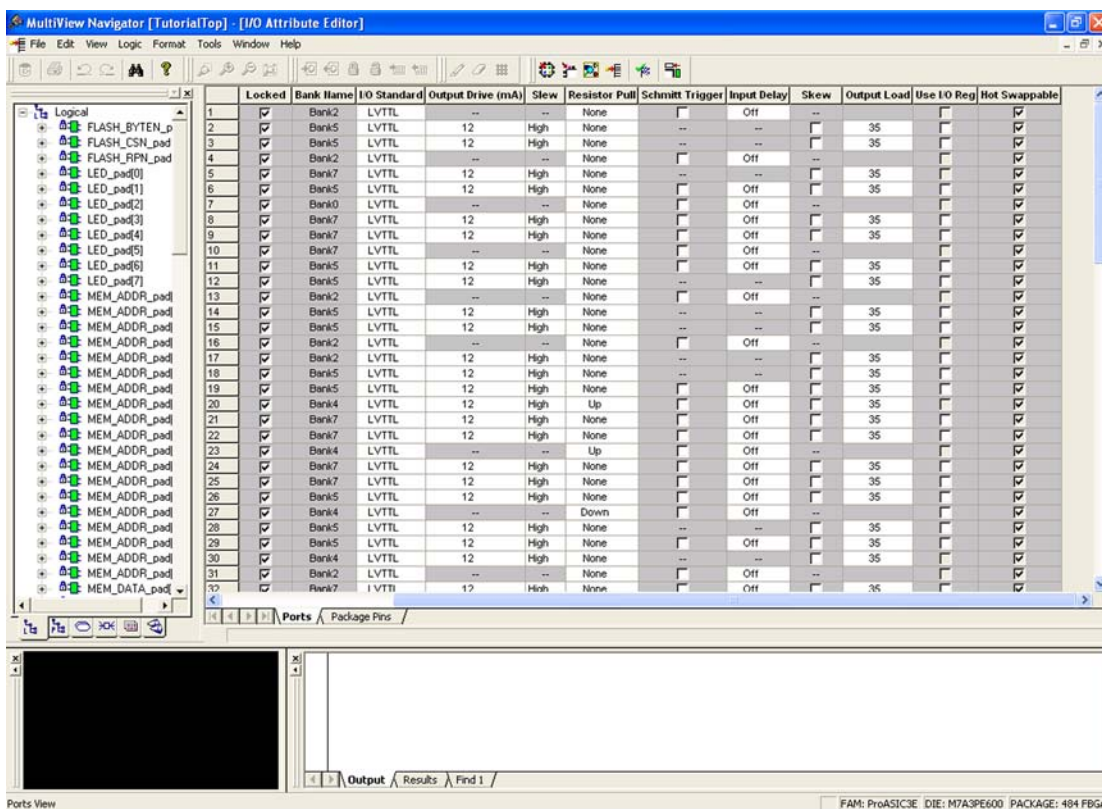

Figure 5-44. I/O Attribute Editor in MultiView Navigator
9. Once the design compiles successfully, use the I/O Attribute Editor tool to verify the pin assignments imported from the pin constraints file. Alternatively, the I/O Attribute Editor can be used to create pin assignments. Click the **I/O Attribute Editor** to open the tool. It opens in the MultiView Navigator user interface, as shown in Figure 5-44.